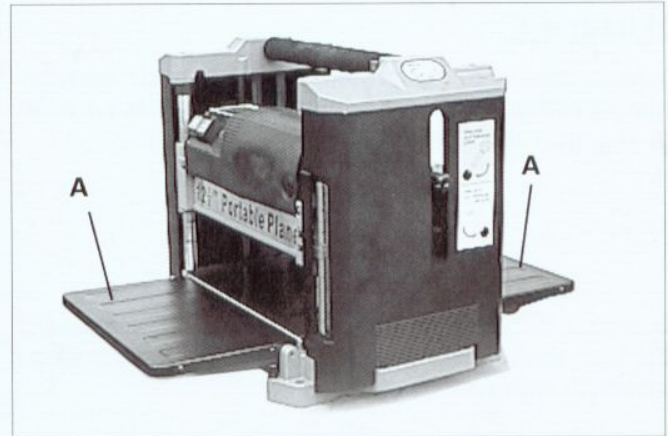

Fig.4
The infeed and outfeed table extensions (A) Fig.4, are shipped attached to the machine and rotated to the "UP" position. Simply rotate both table extensions (A) to the down position as shown. The top surface of the table extensions (A) should be level with the planer table. To check and adjust if necessary, refer to the section of this manual entitled "LEVELING TABLE EXTENSIONS."